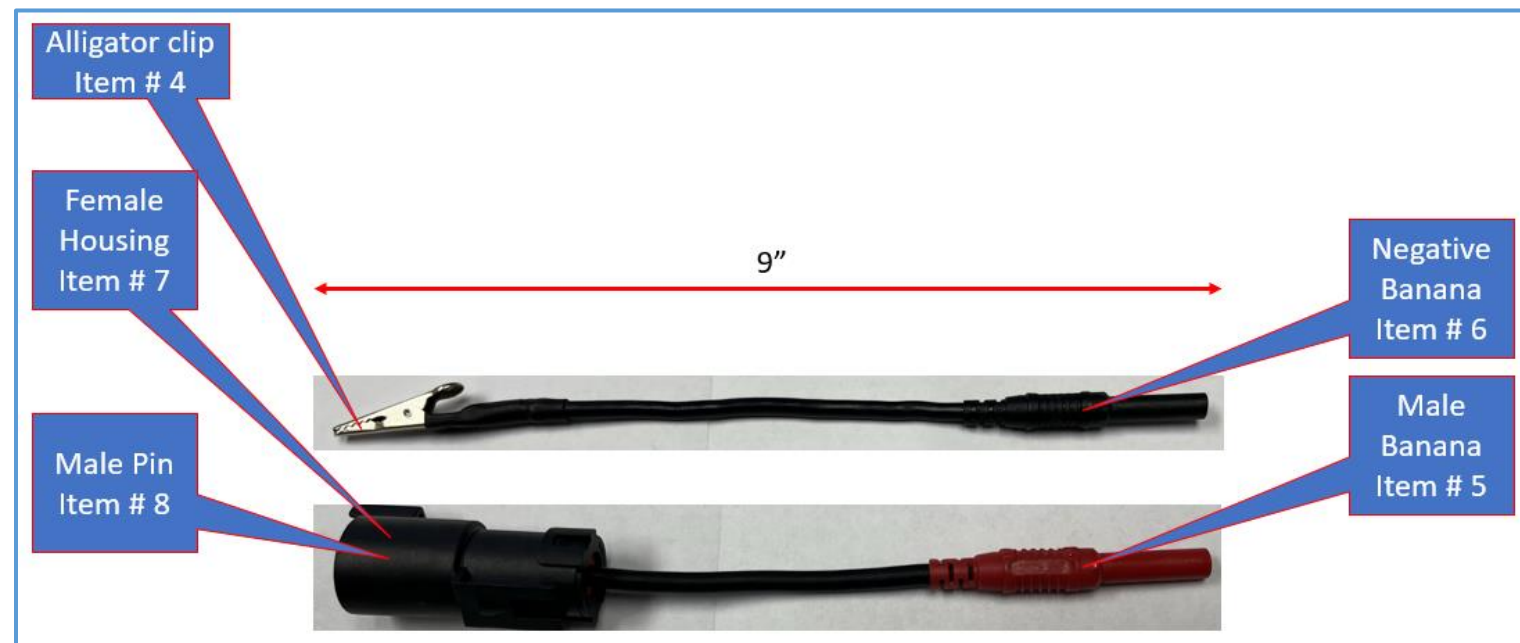

Figure 2
- Optional: Bench harness power/ground jumpers can be fabricated per Figure 2.